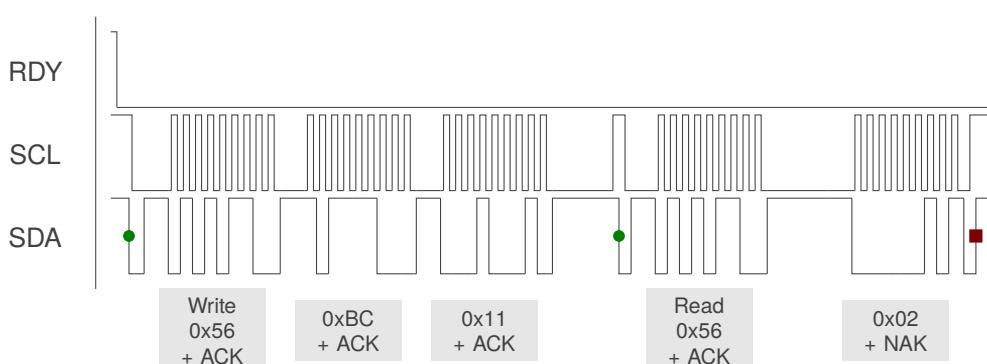

Figure 12.1: I2C Read Example - Read System Control Register 0x11BC Before Modifying
The read operation is displayed in Figure 12.1. The master device watches for the IQS9150's/IQS9151's RDY line to drop low, signalling the availability of fresh data and a window for communication. It is always best to hold off on starting I2C transactions until the RDY line goes low. The master starts communication by sending a start condition, the device address, and a write command in response to the RDY interrupt. After receiving an acknowledgement from the IQS9150/IQS9151, the master device will send two bytes that specify the register address. The device address and a read command will be sent by the master after a repeated start condition. Then, while the master acknowledges each byte, the IQS9150/IQS9151 will keep transmitting data from the requested address. The read operation ends when the master generates a stop condition and does not acknowledge the last byte received.
- > Read the System Control Register (0x11BC) as illustrated in Figure 12.1.
With the *Terminate Comms Window* setting cleared in the *Config Settings* register, a standard I2C STOP ends the current communication window. If multiple I2C transactions need to be done, then they should be strung together using repeated-start conditions instead of giving a STOP. This will allow the communication to occur in the same session. Allowing an I2C STOP to terminate the communication window is the recommended method and is illustrated in Figures 12.1 and 12.2.